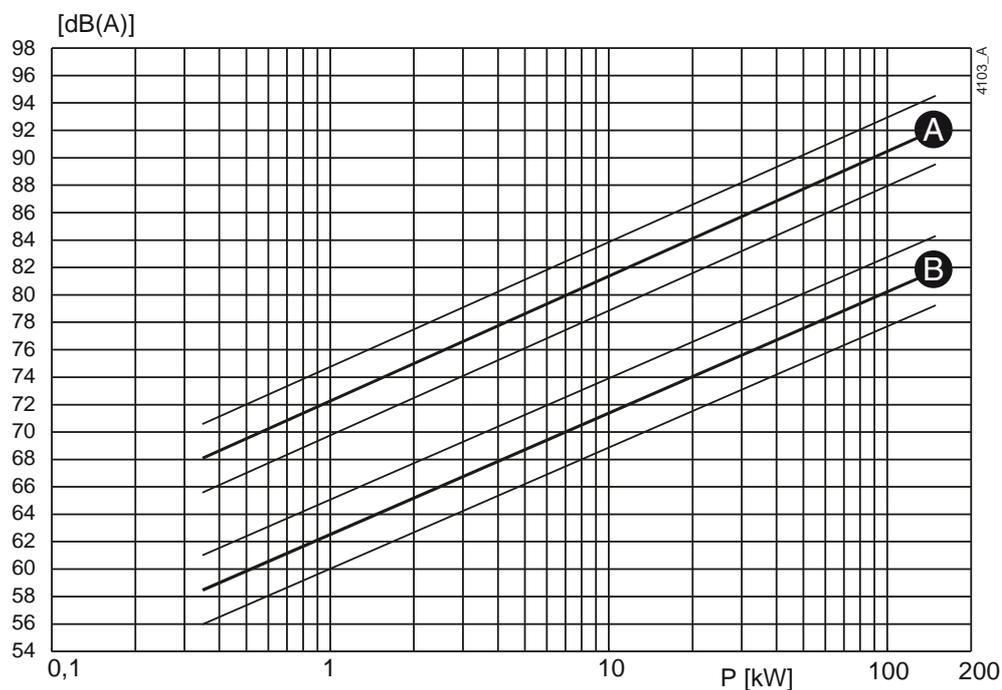
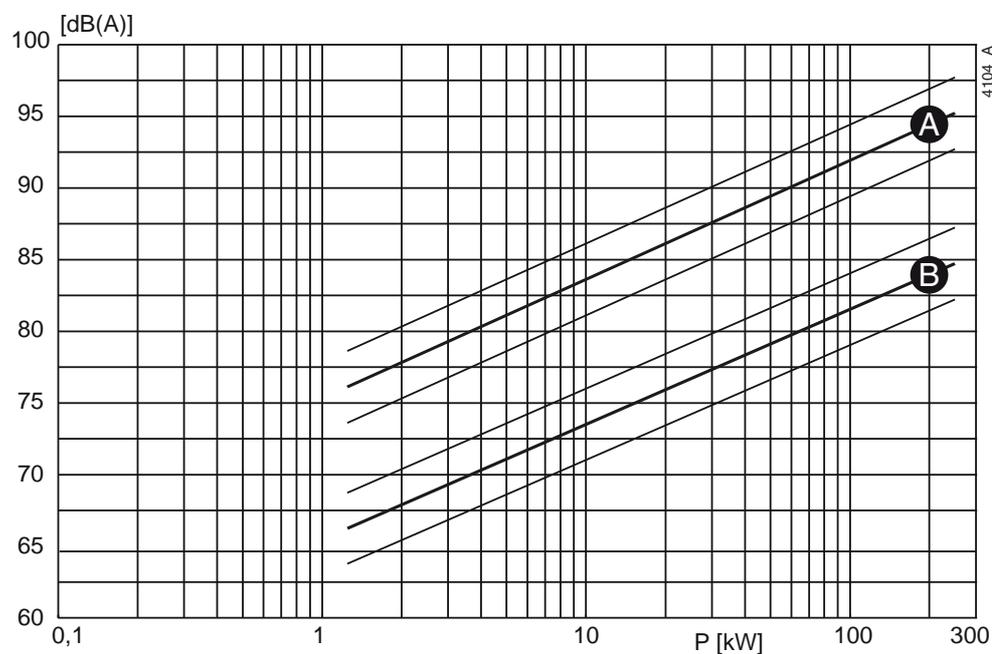

Figure 30: Noise level as function of pump power [kW] at  $1450 \text{ min}^{-1}$
Figure 31: Noise level as function of pump power [kW] at  $2900 \text{ min}^{-1}$
- 1 Determine the noise level (L1) of the pump, see figure 30 or figure 31.